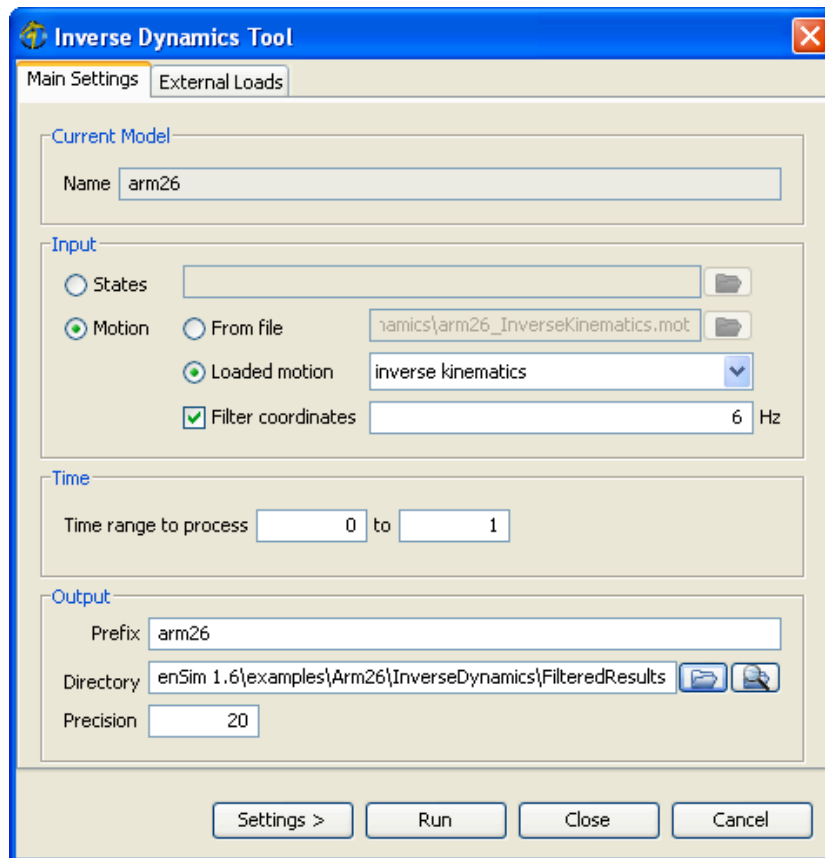

Figure 3-1: Dialog for the Inverse Dynamics Tool. The main settings pane.
To launch the Inverse Dynamics Tool select, **Inverse Dynamics...** from the **Tools** menu. The **Inverse Dynamics Tool** dialog (Figure 3-1) like all other OpenSim tools operates on the *Current Model* open and selected in OpenSim (e.g., *arm26*). The Inverse Dynamics Tool is controlled by a dialog with two tabbed panes. The **Main Settings** pane specifies parameters relating to the input kinematics of the current model, the time range for the analysis, and the output of the results. The **External Loads** pane specifies parameters relating to the external loads applied to the model during the analysis.
The Main Settings pane (Figure 3-1) is organized into four main sections entitled **Current Model**, **Input**, **Time**, and **Output**. The **Current Model** section displays an uneditable name for the current model being used for the inverse dynamics analysis. The **Input** section displays editable information specifying the kinematics (e.g., states or motion) describing the movement of a model. The **Time** section displays editable information specifying the start and end time for the inverse dynamics analysis. The **Output** section displays editable information specifying the prefix appended to the resulting output file, the directory to which the file is saved, and the precision (number of decimal places) used when writing results. You may use the  button to browse for a directory to save the output files, and the  button to explore to the specified directory.
1. **Open Inverse Dynamics Tool.** To open the tool (Figure 3-1), select **Inverse Dynamics...** from the **Tools** menu.